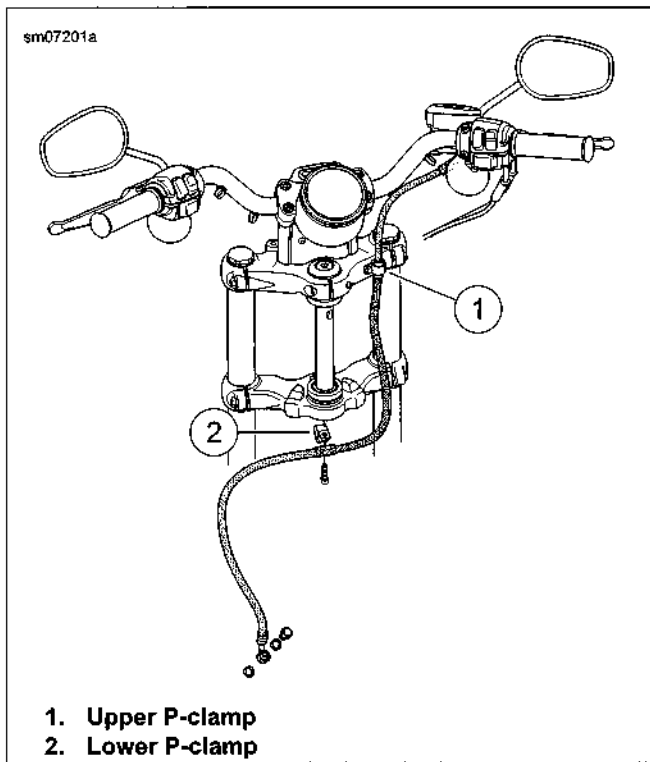

Figure 2-79. Brake Line Routing: XL 883L/N, XL 1200C/CP w/Pull Back, XL 1200T, XL 1200X
1. See Figure 2-79. Fit upper and lower clamps to grommets.